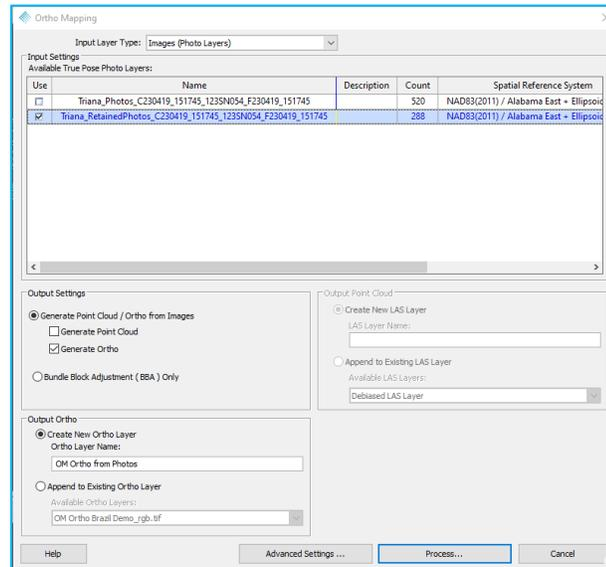

Figure 107 – Ortho Mapping dialog with Input Layer Type: Images (Photo Layers)
14. After selecting the input layer type to be **Images** the Ortho Mapping dialog will change to look like Figure 107.